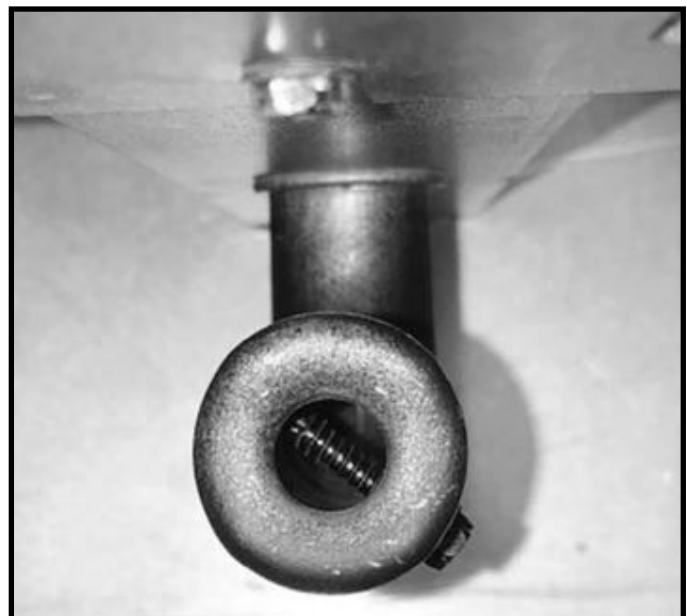

Figure 9.7 Mixing Screw Installed
2. Twist adjustable shutter to the fully closed position and finish tightening the screw. See Figure 9.7.